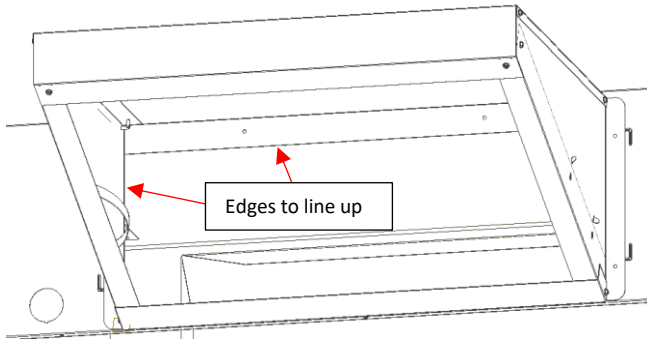

FIGURE 5 – Filter Rack Installation
- Line up left edge of cutout with inner left edge of the Filter rack, make top edge of cutout flush with inner top flange inside the filter rack. Refer to Figure 5